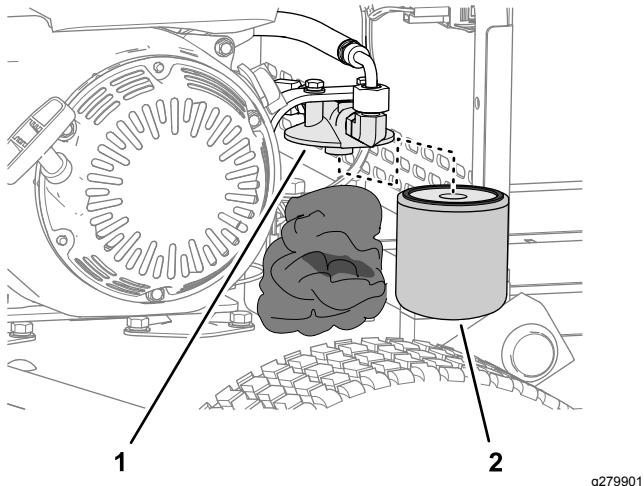

Figure 37
2. Pack rags under the hydraulic filter (Figure 37).
3. Carefully remove the hydraulic filter (Figure 37).
5. Install the filter onto the filter head by hand (Figure 37) until the gasket contacts the filter head, then tighten the filter 3/4 turn further.